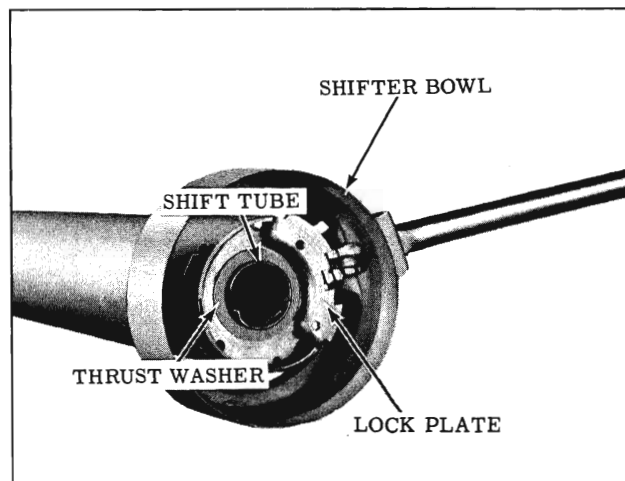

Fig. 4-98 Lock Plate Location
6. Place the wave washer on the lower side of the lock plate, retain with ball joint lubricant, then slide the lock plate into position through the opening in the mast jacket. (Fig. 4-98)